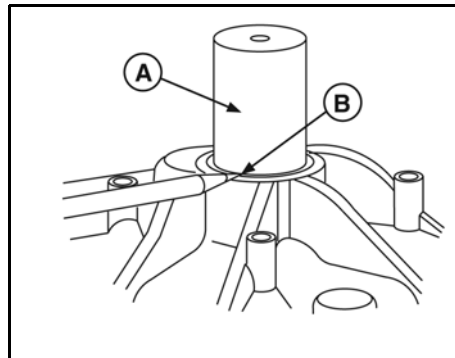

Figure 9
3. Insert bushing driver tool (**A**, Figure 9) into bearing from oil seal side. Place a reference mark (**B**) on driver to indicate proper depth when installing the new bearing.